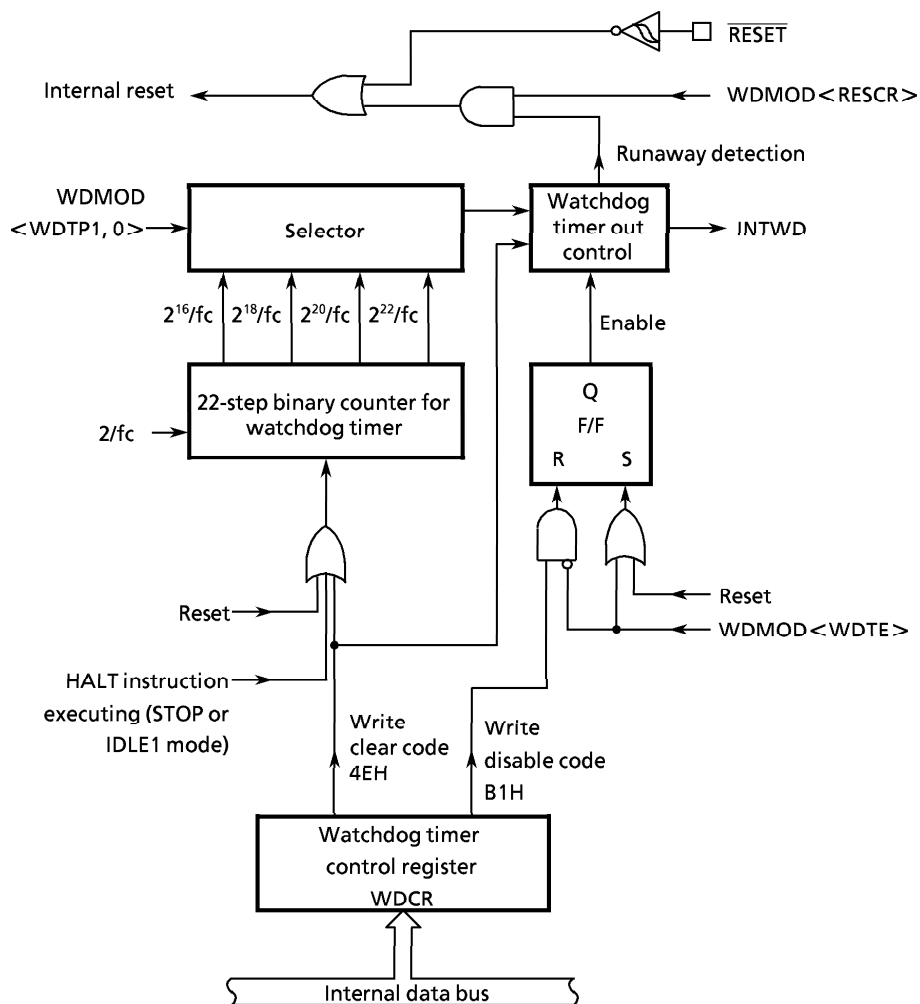

Figure 3.12 (1) Watchdog Timer Block Diagram
TMP95CS64/265 incorporates a watchdog timer for detecting a runaway (out-of-control) condition. The watchdog timer (WDT) returns the CPU to its normal state when it detects the start of a CPU runaway due to, for example, noise. When the watchdog timer detects a runaway, it generates an INTWD (non-maskable) interrupt to notify the CPU of the condition. In addition, the runaway detection result can be used for a forcible reset of the microcontroller itself. The watchdog timer consists of a 22-step binary counter with $2/f_c$ as the input clock, and a control block. Figure 3.12 (1) is a block diagram of the watchdog timer (WDT).